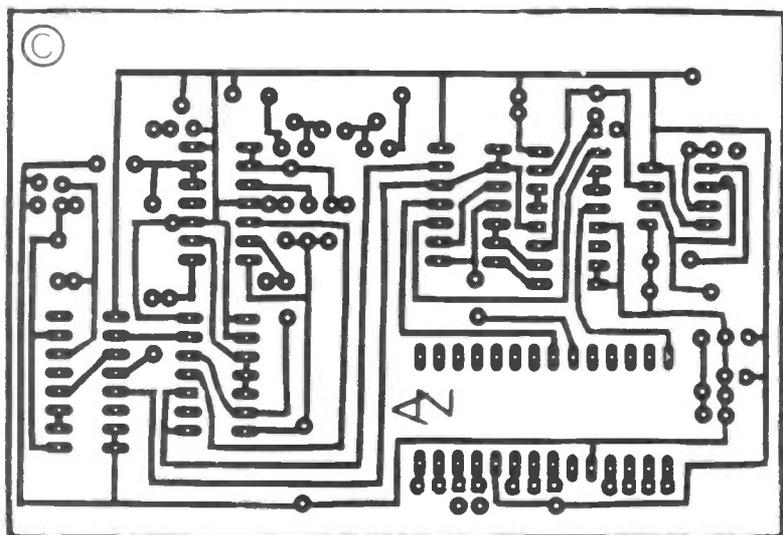
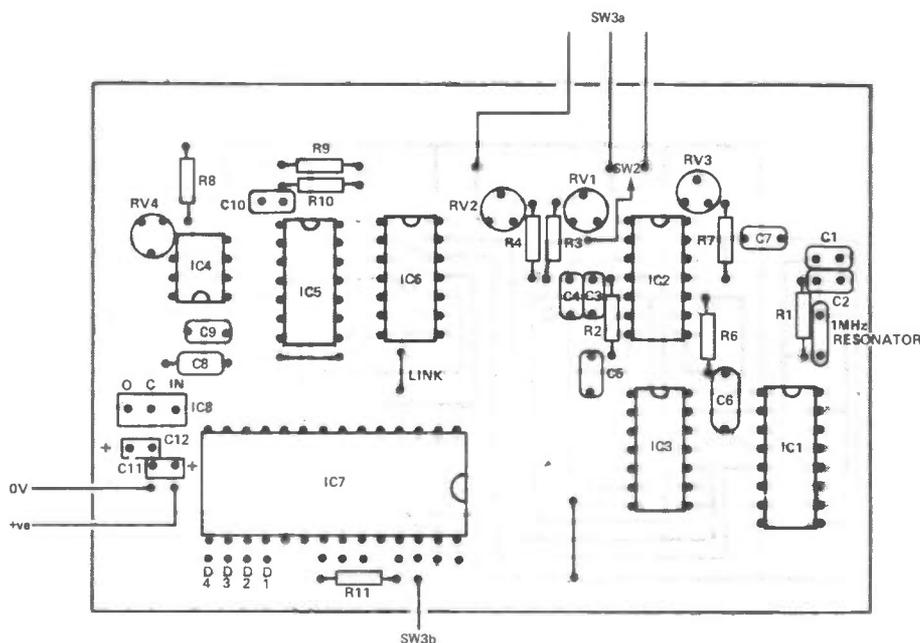

Figure 1: PCB foil pattern for main board of the Digital Capacitance Meter (July '83).
Figure 2: Note the change to the overlay in the region of IC5 of the DCM (July '83).
1) Figure 1: The labels R2 and C2 were omitted from the circuit diagram. They are, of course, the two unlabelled components shown adjacent to IC3.
2) Figure 2: The component overlay showed two C1's. The device adjacent to Q1 should have been labelled C7 (+ve
- 2) The correct PCB foil pattern for the main board is shown here in *Figure 1*. Moreover, the overlay in the region of IC5 was incorrectly presented: the correct version is shown in *Figure 2*.